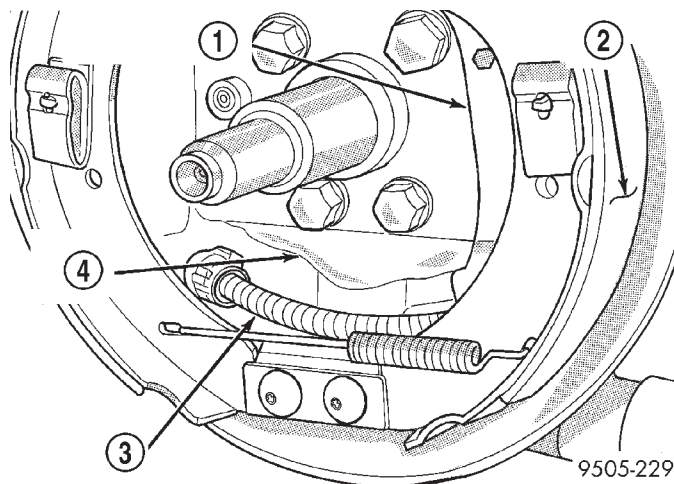

Fig. 8 Park Brake Cable Attachment To Actuating Lever
(5) Remove the park brake cable from the park brake actuating lever (Fig. 8). Then remove the park brake cable from the rear brake support plate (Fig. 9). Park brake cable is removed from brake support plate using this procedure. Position a 1/2 inch box end wrench over cable retainer (Fig. 9) to collapse retaining tabs. Then pull rear brake cable from brake support plate.